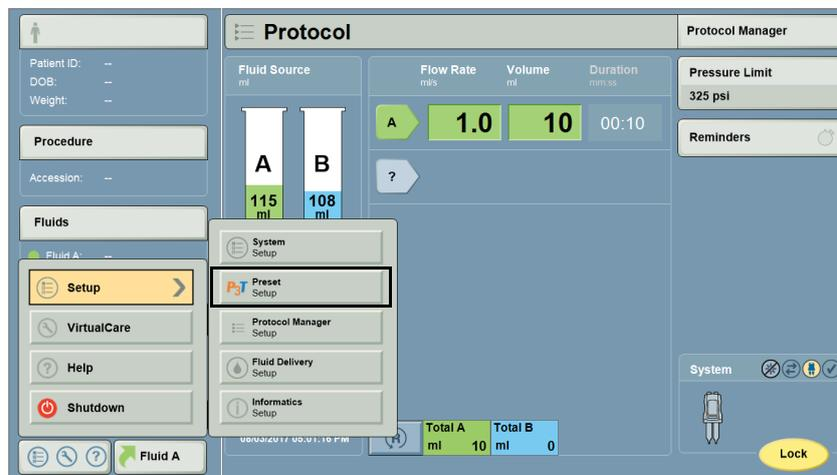

Figure 13 - 4: Setup Categories (P3T Setup)
2. Select **P3T Preset Setup** (Figure 13 - 4: Setup Categories (P3T Setup)).